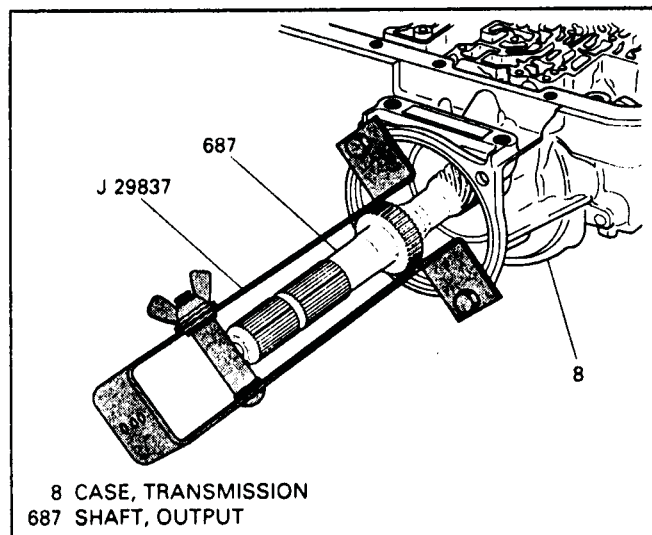

Figure 51
54. Install J-29837 on case as shown in Figure 51, to protect output shaft from falling out during disassembly when the next snap ring is removed.